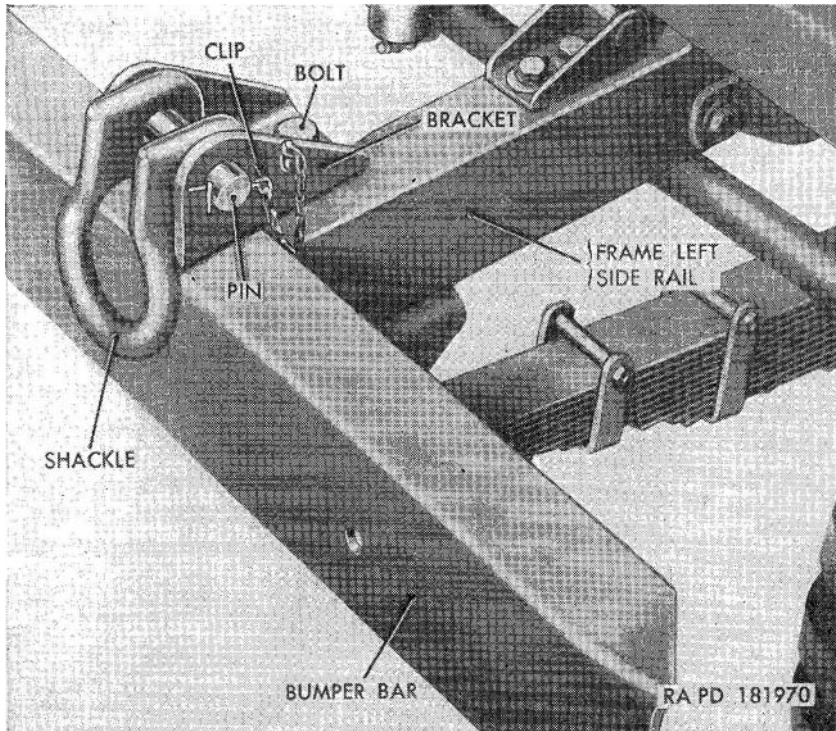

Figure 189. Front lifting shackle and bracket—installed.
*a. Front Lifting Shackles and Brackets* (fig. 189).
- (1) *Removal.* Remove the snap clip from the hole in the end of the shackle pin. Withdraw the shackle pin from the front lifting shackle bracket and front lifting shackle, and remove the shackle from the bracket. Remove the two bolts and lockwashers securing the shackle bracket to the frame side
### e. *Bumper Bar* (fig. 189).